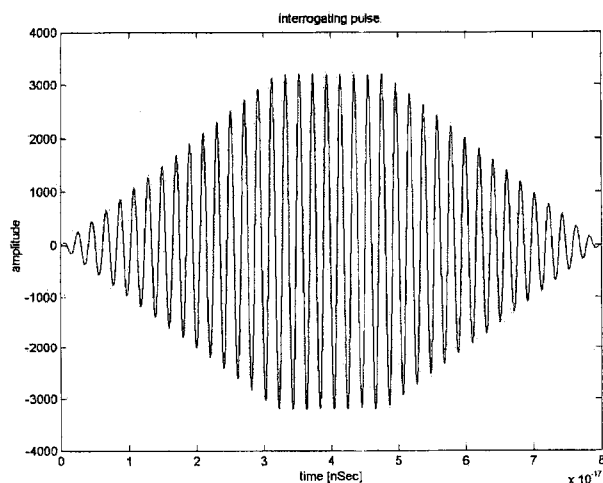

Figure 4: Interrogating Pulse – Simulated
**Interrogation:** In order to produce the spread sequence (in the transmitting side of the module) the SAW is interrogated by a 488MHz 76ns RF pulse. The pulse is characterized by a rise/fall time of 30ns and a flat time of 16ns as shown in Figure 4.